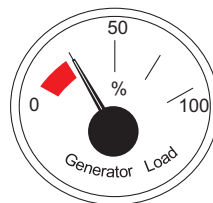

Figure 52. Generator Load Gauge
- The **generator load gauge** (Figure 52) Indicates the generator load rate. It is recommended the load be above the red area (20%) for maintaining sufficient exhaust temperature.